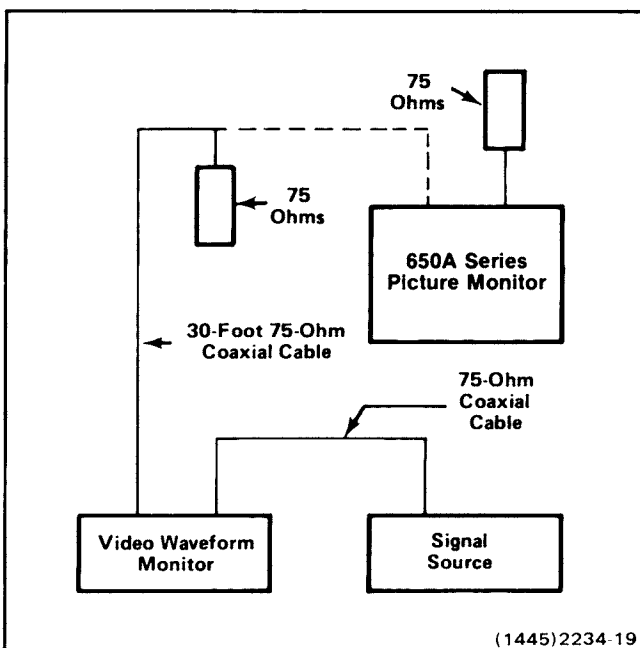

Fig. 6-2. Setup for measuring return loss.
13. Return Loss Bridge and Signal Generator. For checking return loss in step 39. Use a 015-0149-00 Return Loss Bridge and an SG 503 Constant Amplitude Signal Generator in a TM 500-Series mainframe, or equivalent. If this equipment is not available, use a setup similar to the one shown in Fig. 6-2.